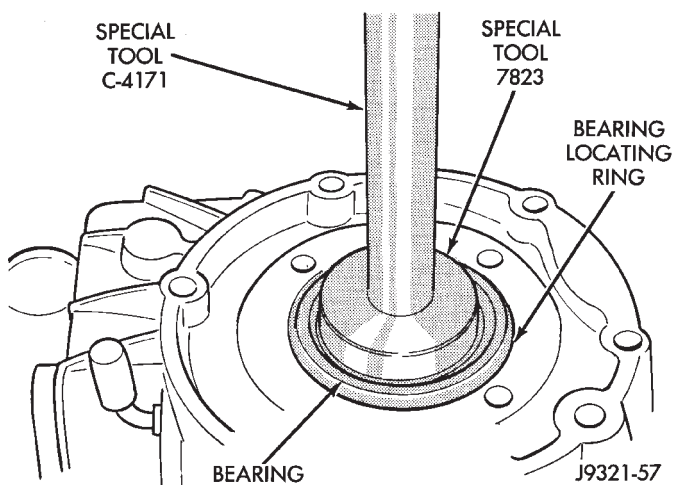

Fig. 57 Installing Front Bearing
(2) Install locating ring on new bearing, if necessary (Fig. 57).
(3) Position case so forward end is facing upward (Fig. 57).